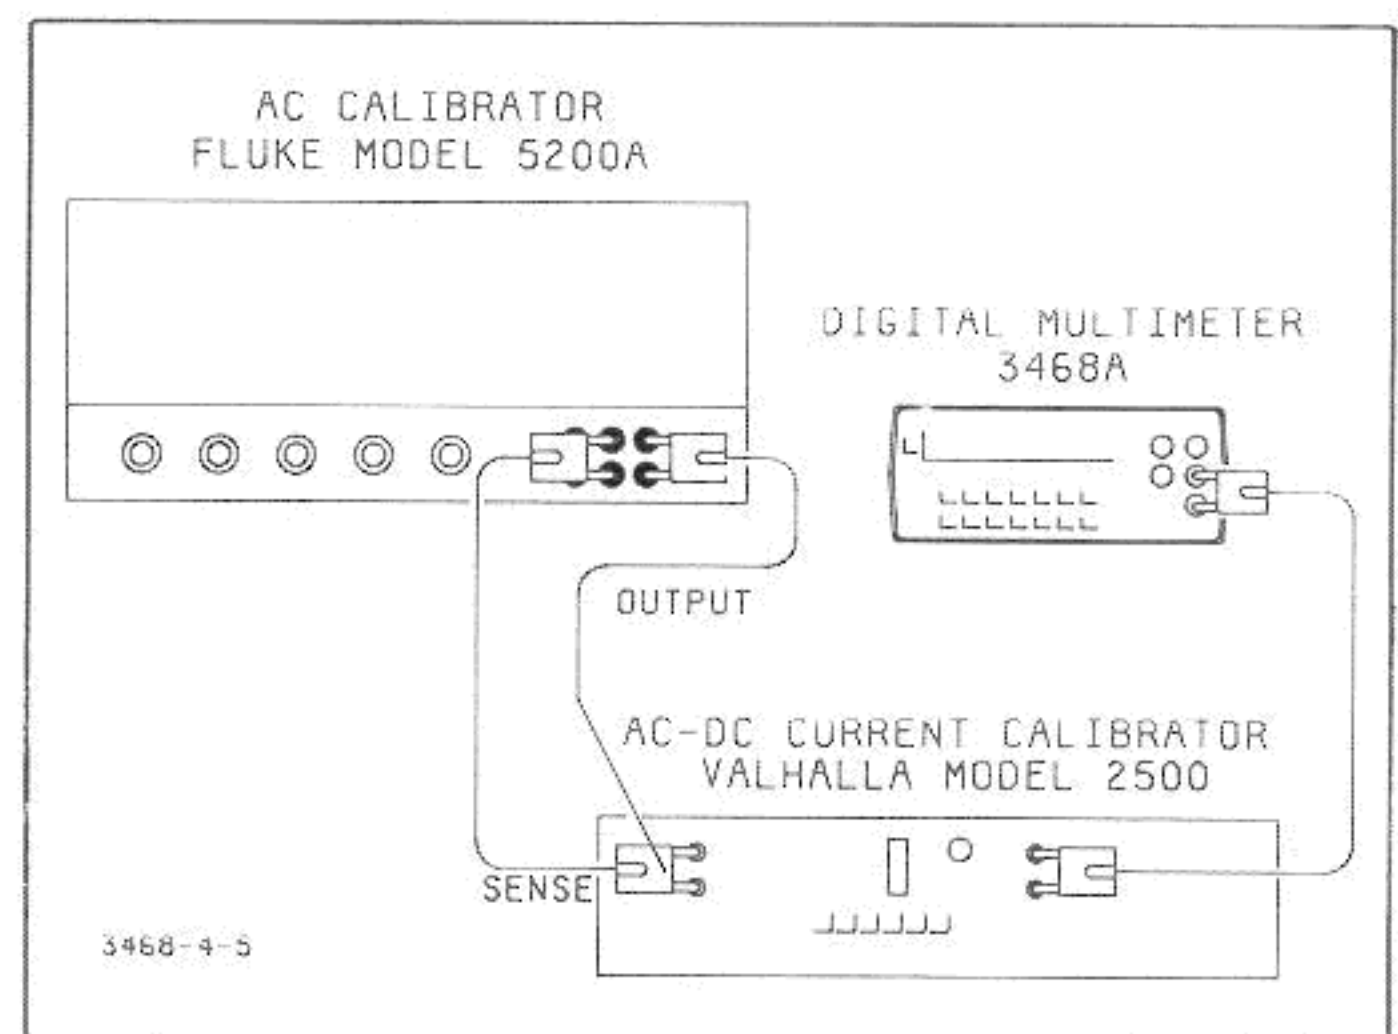

Figure 4-5. AC Current Accuracy Test
e. Connect the AC Calibrator to the AC-DC Current Calibrator as shown in Figure 4-5.
f. Connect the 3468A to the AC-DC Current Calibrator as shown in Figure 4-5.